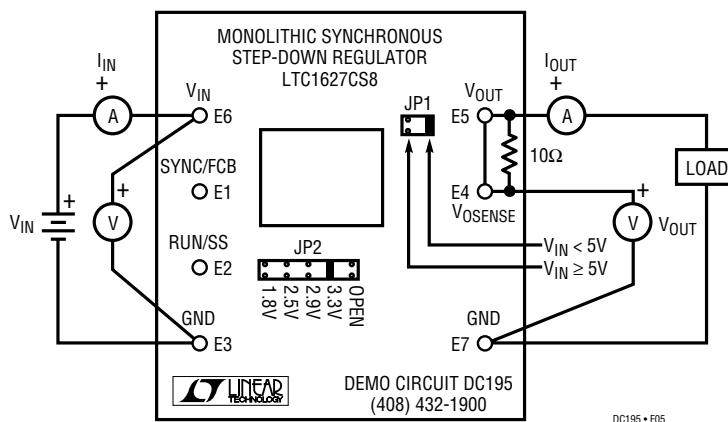

Figure 6. Proper Measurement Setup
- Refer to Figure 6 for proper connection of monitoring equipment to ensure correct measurement.
the output side of R6. These points correspond to the GND (E7) and  $V_{OSENSE}$  (E4) terminals of the board. Output voltage test leads should be attached directly to these terminals. The load should be placed between  $V_{OUT}$  (E5) and GND (E7). Measurements *should not* be taken at the end of test leads at the load. Refer to Figure 6 for the proper monitoring equipment configuration.